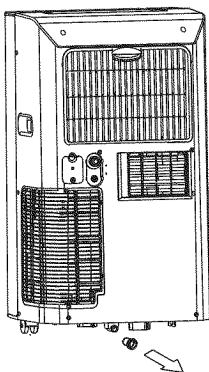

Fig.21
- When you plan to leave this unit unused for a long time, remove the bottom rubber plug from the back hole and attach a section of the continuous drain hose. All the water in the bottom tray would drain outside through the drain hose. (See Fig.21)